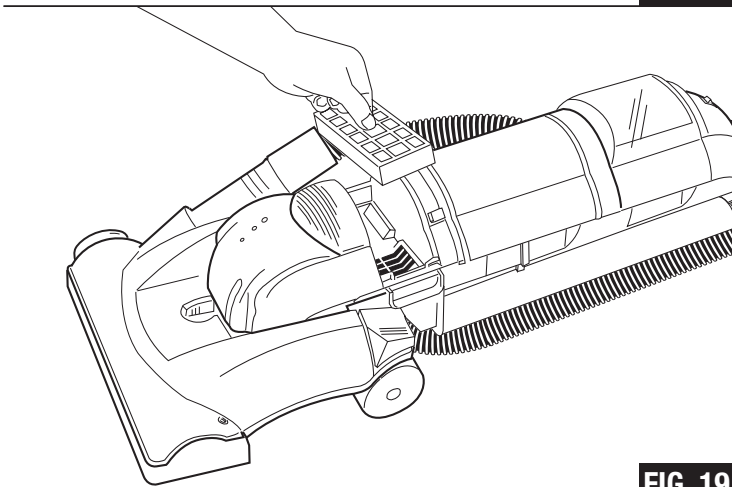

FIG. 19
Step 2: Pull filter frame from unit by pulling on tab in center (FIG. 19).